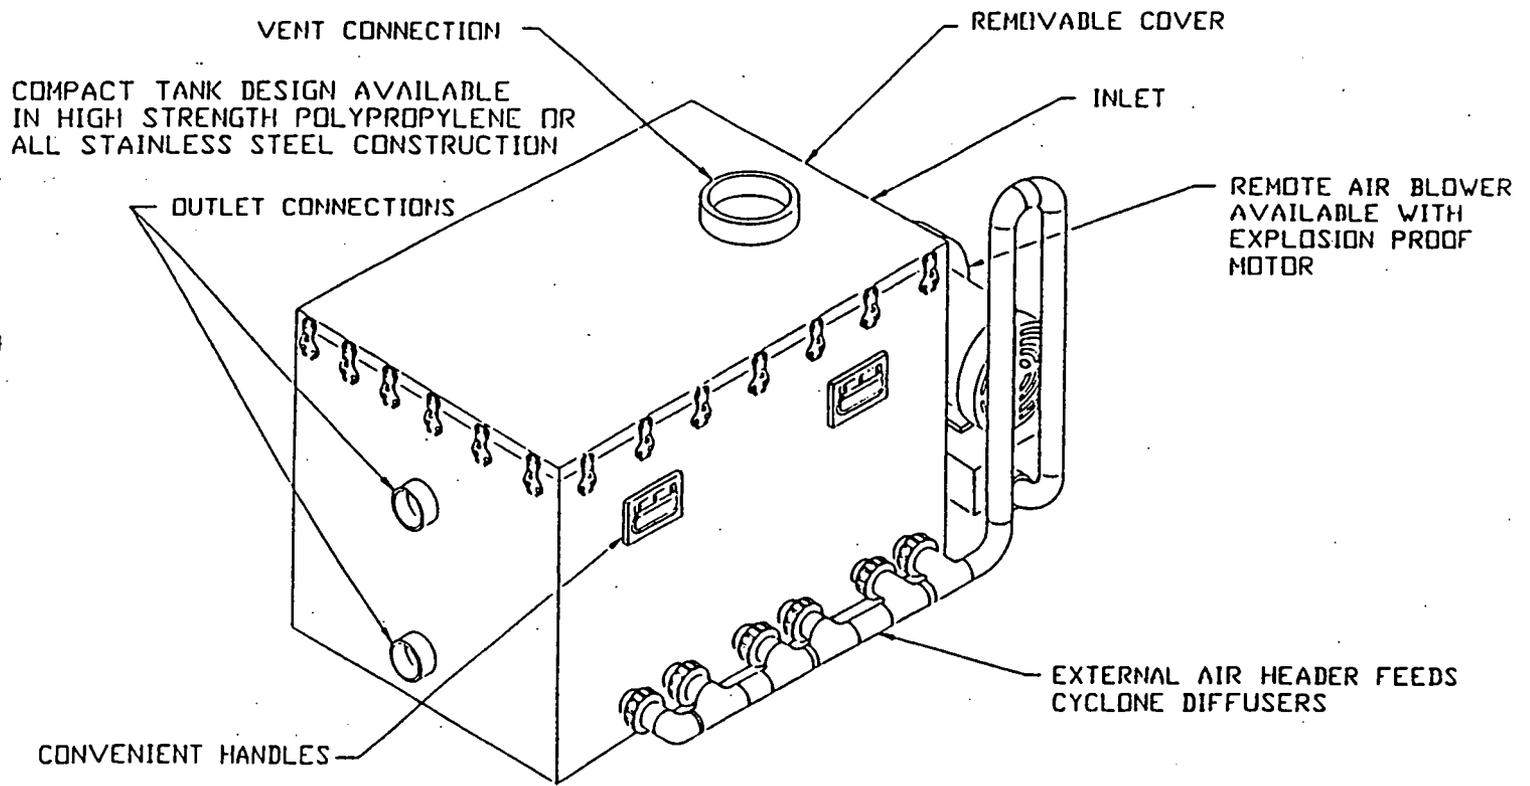

Figure 3 Breeze with U-Tube in place
- 4.) Blower should be placed higher than water level to prevent damage to unit. Installation of a U-Tube (see figure 3) or use of a one way valve are alternatives to placing the blower higher than the BREEZE Air Stripping Tank. Aeromix recommends a U-Tube rather than a one way valve to minimize head losses through the air piping system.